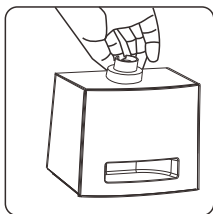

Figure11
2.Inverted the tank and screw open the tank lid, then add water to the full, and then tighten the lid cap. (Figure 11)